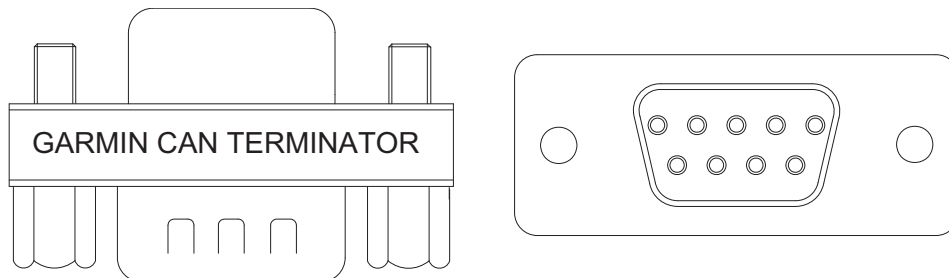
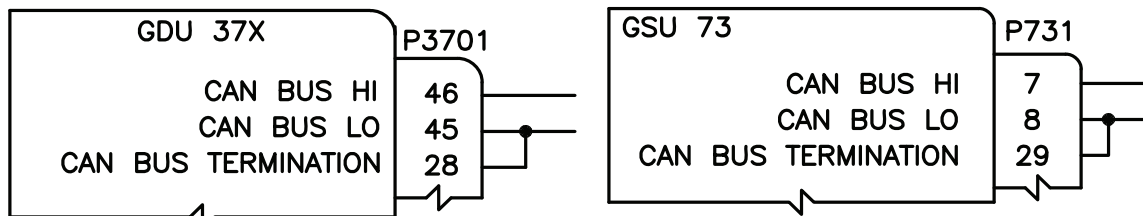
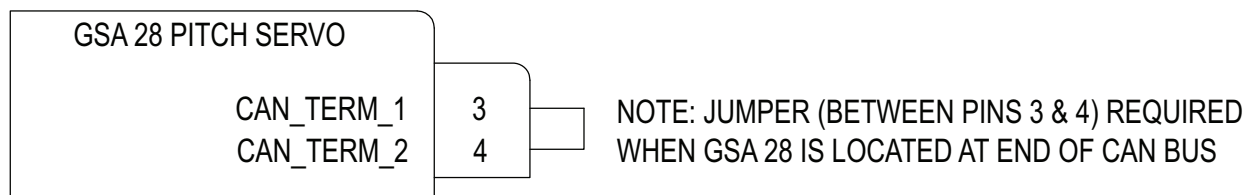

Figure 2-4. CAN Bus Termination (011-02887-00) for GAD 29, GEA 24, and GSU 25
Figure 2-5. CAN Bus Termination for GDU 37X and GSU 73
Figure 2-6. CAN Bus Termination for GSA 28
LRUs that can connect to the CAN Bus are: GAD 29, GDU 37X, GEA 24, GSA 28, GSU 25, GSU 73. The GEA 24 and GSU 25 installation kits provide a DB-9 CAN Bus terminator that contains a 120 Ω resistor connected between pin 1 and 2 (Figure 2-4). The GDU 37X and GSU 73 units are terminated by connecting the CAN Bus Lo pin to the CAN Bus Termination pin (Figure 2-5). The GDU 37X, GSU 73, and GSA 28 units all contain a 120 Ω resistor inside the unit that provides the termination when connected externally (as shown in Figure 2-5, Figure 2-6). The GSA 28 servos are terminated by connecting pin 3 to pin 4 (Figure 2-6).
3. If a GAD 29, GEA 24, and/or GSU 25 unit (that was used as a CAN bus termination) is removed, the CAN bus will remain terminated as long as the CAN bus terminator (Figure 2-4) is left connected.
The 120 Ω termination resistors described in the preceding paragraphs are "built-in" to the termination methods shown in the following figures. Do not install a separate "discrete" 120 Ω resistor to terminate the CAN bus in addition to the termination methods shown in Figure 2-4, Figure 2-5, and Figure 2-6.